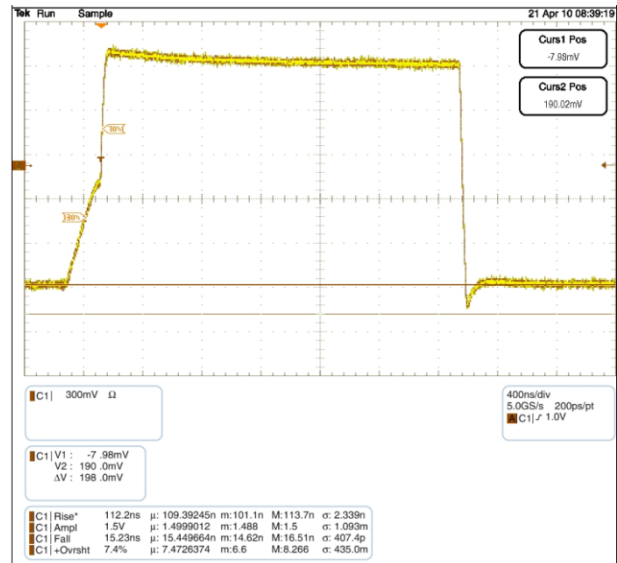

Figure 5. Waveform C: 600 pF, Total RPU: 2.2 kΩ
the Npassgates act as a low-resistive short between both ports until either of the port’s VCC/2 thresholds are reached. After the RC time constant has reached the VCC/2 threshold of either port, the port’s edge detector triggers both dynamic drivers to drive their respective ports in the LOW-to-HIGH (LH) direction, accelerating the rising edge. The resulting rise time resembles the scope shot in Figure 5. Effectively, two distinct slew rates appear in rise time. The first slew rate (slower) is the RC time constant of the bus. The second slew rate (much faster) is the dynamic driver accelerating the edge.